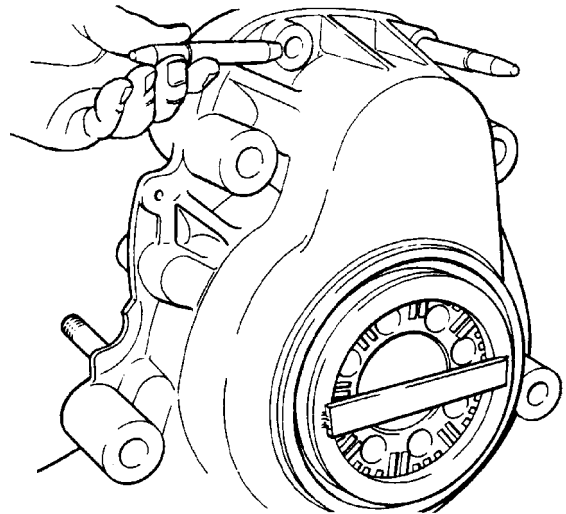

Figure 242 - Guide Pins - Installation
- m. Install the retainer (Table 2, Item 23) in the hub (Fig 242).
- n. Remove the ten M14 (Grade 12.9) hub drive housing retaining bolts and screw in the three guide pins (Table 2, Item 24) into the mounting holes (two upper and one lower) (Fig 242).